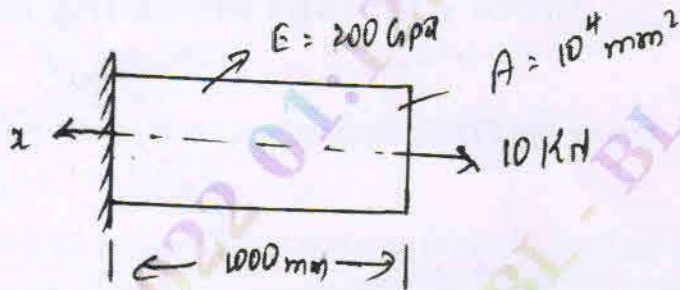

Fig Q5(a)
- 5 a. Fig Q5(a), show a one dimensional bar subjected to an axial loading. Taking it as a two element, determine i) Nodal displacement ii) Stress in each element iii) Reaction at the support.